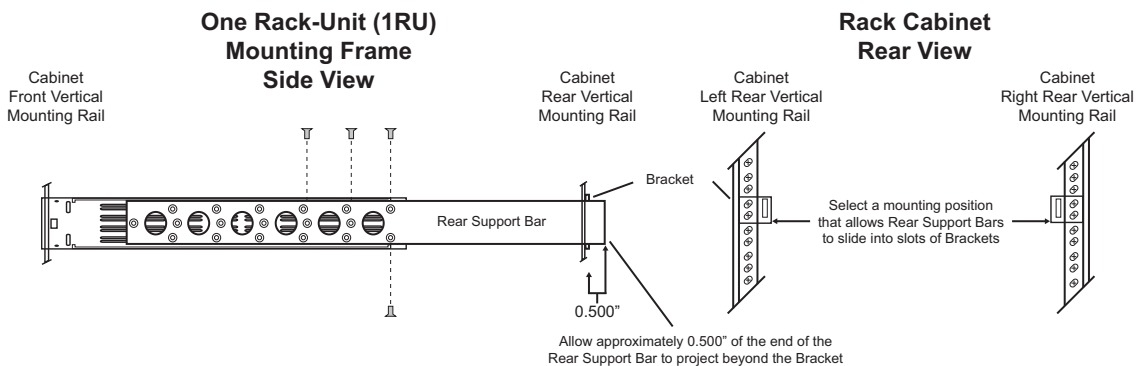

Figure 4.1 Installing the Support Brackets
In some cases, (mobile trucks, etc.) it may be desirable to also support the rear of the ACO-2200. The rear support bars can be attached to the ACO-2200 in six possible positions. (**Figure 4.1**)
2. Using four screws per bracket, as shown in **Figure 4.1**, attach both bars.